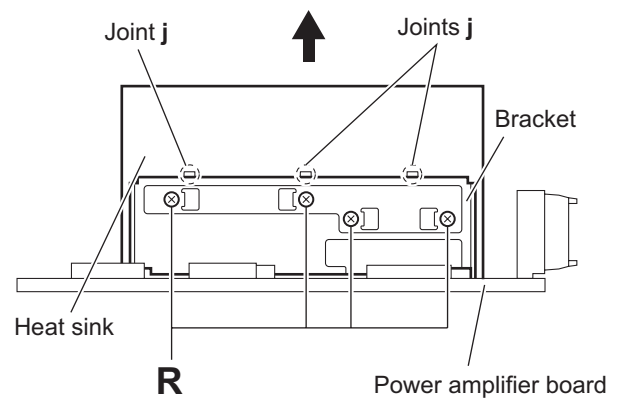

Fig.21
- (2) From the forward side of the power amplifier board, remove the four screws **R** attaching the heat sink to the bracket. (See Fig.21)
- (3) Release the joints **j** and remove the heat sink in the direction of the arrow. (See Fig.21)